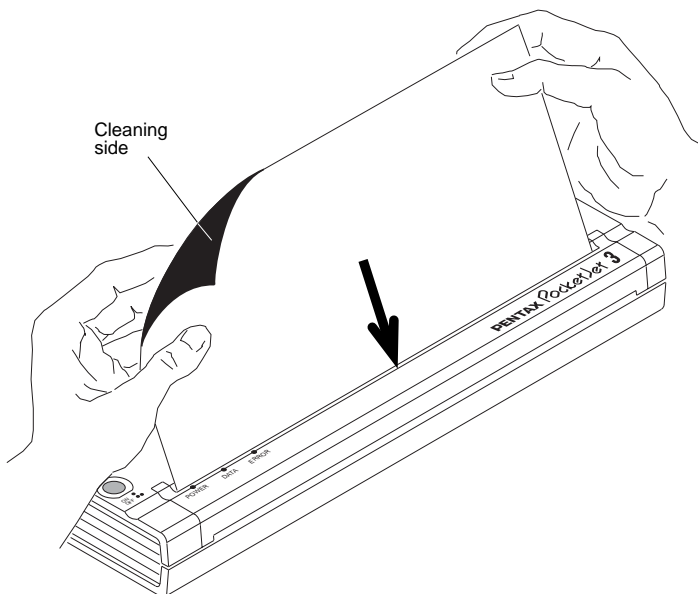

FIGURE 17. Inserting the cleaning cloth
4. Insert the black cleaning cloth that came with the printer into the printer’s paper input slot with the rough black side, which contains the cleaning material, towards the rear of the printer. See Figure 17. The printer pulls the cleaning cloth through.